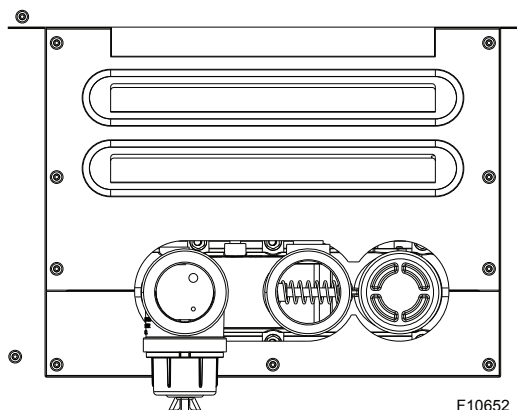

Figure 29. Access Panels
1. Remove right and left side access panels. See **Figure 29**.